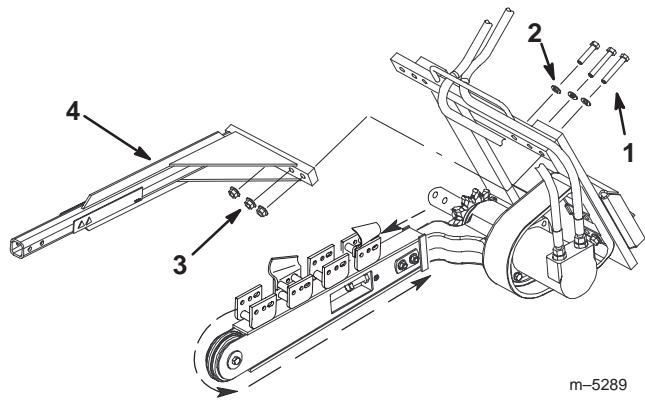

Figure 3
- Remove the 3 bolts, washers, and flange nuts from the upper left corner of the trencher frame (Fig. 3).
- Using the fasteners removed in step 1, install the trencher safety bar as illustrated in Figure 3.